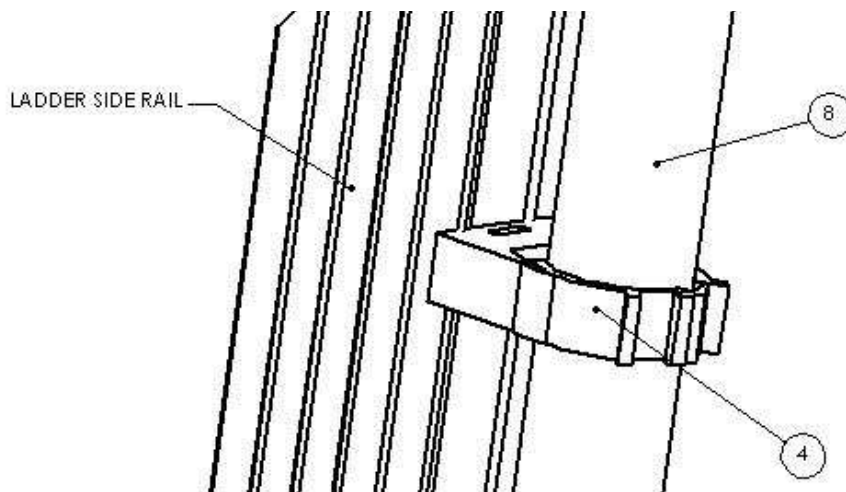

Figure 14
- 16) Starting with the top hose clamp, insert the PVC hose into the clamps as shown below in Figure 14. The clamps automatically tighten when pressure is applied pushing the hose into the clamps.